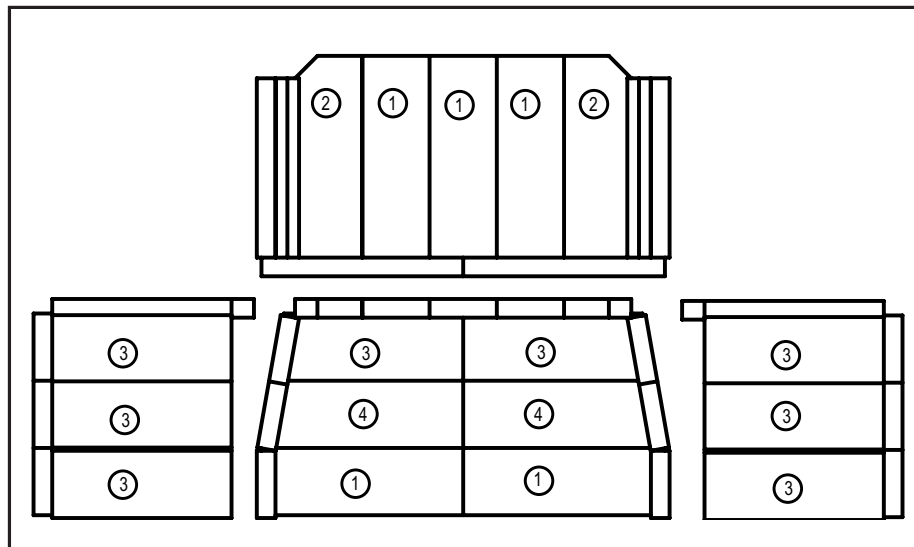

Figure 29B-Brick Pattern
1. Remove new brick set from box and lay out to diagram as shown in Figure 29B.